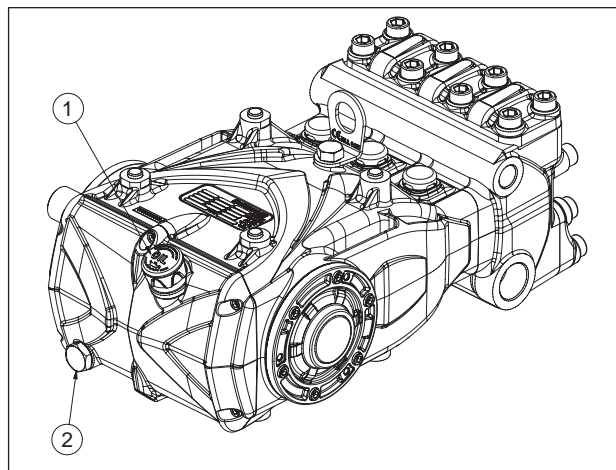

Fig. 3
Check the oil level and top up if necessary using the oil dipstick pos. ①, Fig. 3.
The correct checking of the oil level is made with the pump not running, at room temperature. The oil change must be made with the pump at working temperature, removing: the oil dipstick, pos. ①, and then the plug pos. ②, Fig. 3.